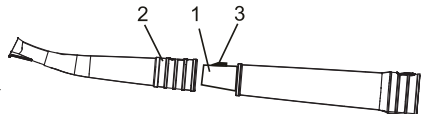

Fig. 5
1. Insert the small end of the rear nozzle section (1) into the large end of the front nozzle section (2) (Fig. 5).
2. Push the two nozzle sections until the nozzle release button (3) “clicks” into place to lock the nozzle sections together.